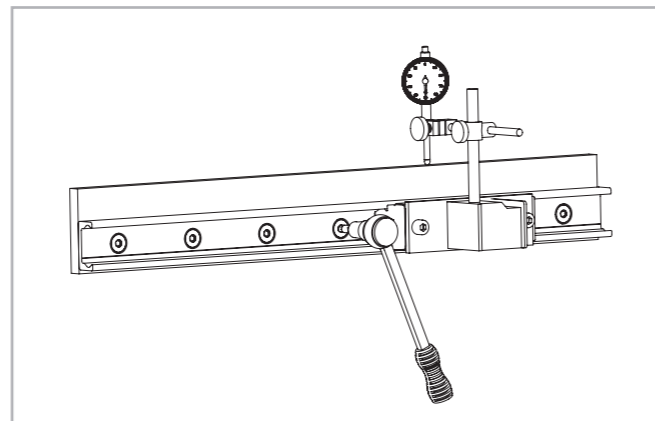

Fig. 105
(2) Install a dial indicator so that the offset of the rail to a reference line can be measured. Now position the slider in the center of the rail and set the dial indicator to zero. Move the slider back and forth between each two hole spacings and carefully align the rail. Fasten the three center screws of this area now with the specified tightening torque, see pg. fig. 105.